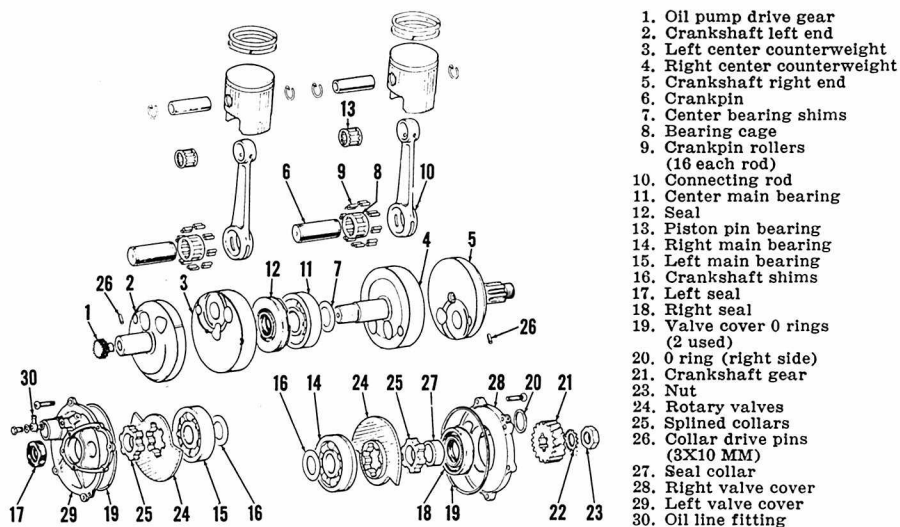

Fig. BS3-20—Exploded view of crankshaft assembly and rotary valves. Refer to Fig. BS3-24 for valve timing.
When installing crankshaft, end play is adjusted by adding shims (16—Fig. BS3-20). End play should be 0.003-0.020 inch. Crankshaft gear (21) should be installed with timing mark on gear and spline aligned as shown in Fig. BS3-8. Crankshaft nut (23—Fig. BS3-20) is left hand thread and should be tightened to 250 inch pounds of torque.
**CRANKCASE AND GEARBOX.** The rotary valves (24—Fig. BS3-20) are located at each end of crankshaft. Valve on right side can be removed after removing carburetor, clutch, crankshaft gear (21), and valve cover plate (28). Valve on left side can be removed after removing carburetor, crankcase side cover, oil pump and and valve cover (29). Care should be taken to prevent valves from absorb-